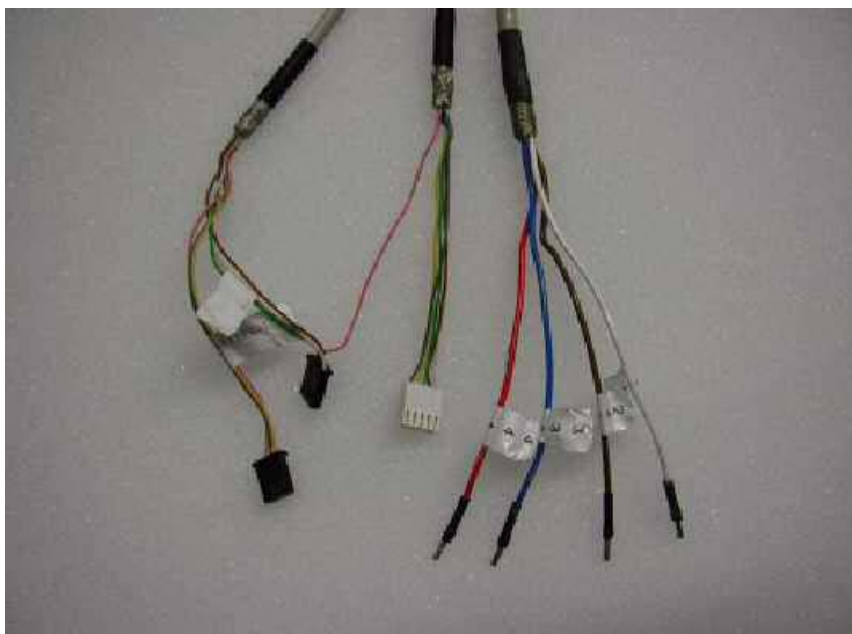
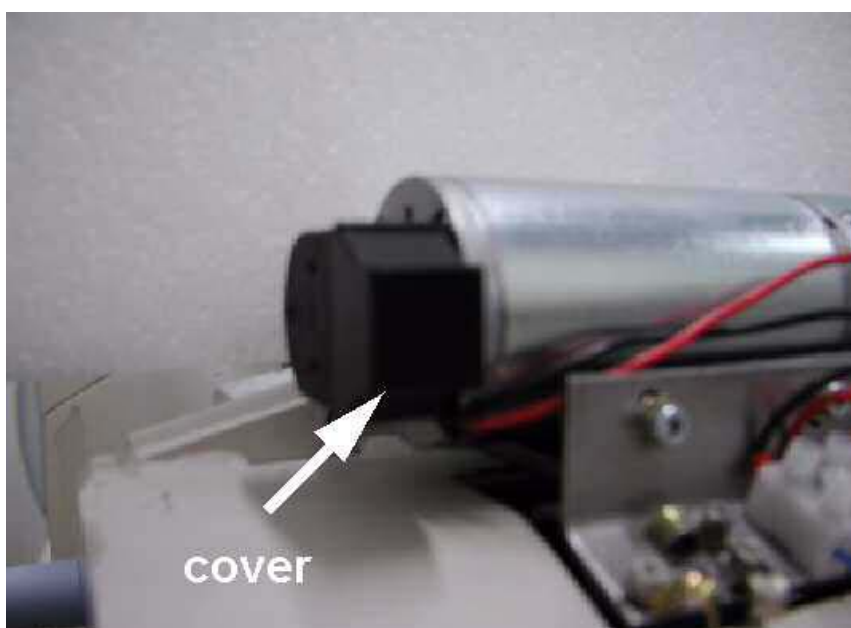

Fig. 40: Connectors_cable set for orbital drive
Fig. 41: Plug in encoder
- Move the angulation part into the cable module and attach it with screws \(Fig. 41 / p. 40\). Ensure that the markings (black lines) on the two gear wheels match exactly \(Fig. 40 / p. 40\).